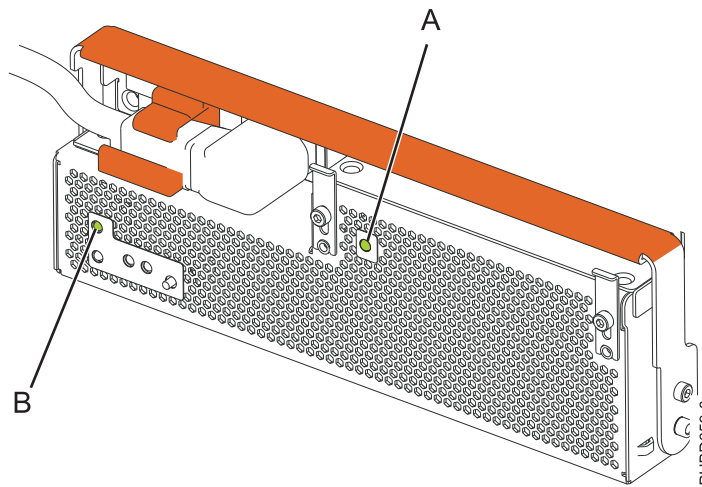

Figure 65. Expansion unit ac power and OCA power LEDs
9. Note the state of the green ac power in (A) and offline converter assembly (OCA) power (B) light-emitting diodes (LEDs) shown in Figure 65, and do one of the following actions, as applicable:
- If the LEDs indicate that the power supply is operating normally, that is, that the ac power in LED (A) is on solid and the OCA power (B) LED is on solid or flashing, continue to the next step.